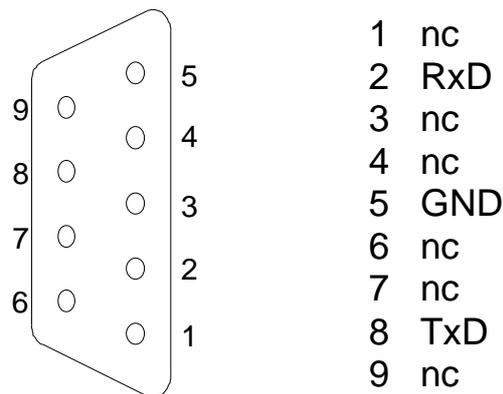

Fig. 10
The instrument can be equipped at the factory with a serial RS-232C interface for data transfer. The 9-pole Sub-D-Connector is located on the back of the CPU-assembly, (fig. 2, item 1.). Pin assignment see fig. 10.